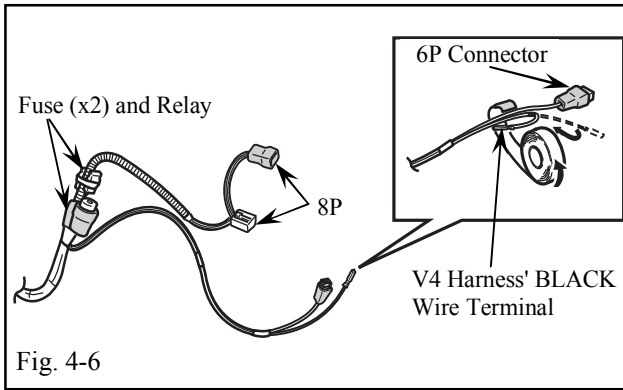

Fig. 4-6
- (h) Secure the V4 Harness' Black Wire Terminal with Electrical Tape as shown. (Fig. 4-6)